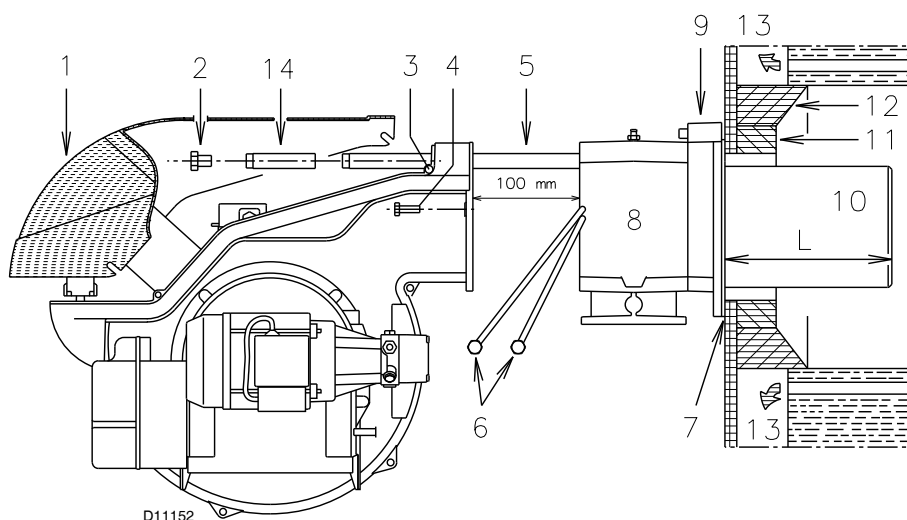
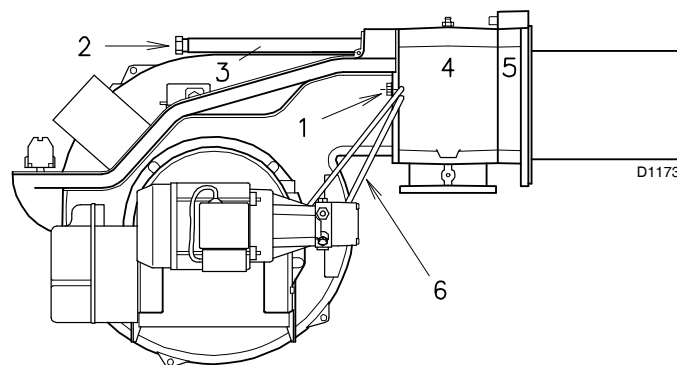

Fig. 9
Fig. 15
For boilers with front flue passes 13)(Fig. 9) or flame inversion chambers, protective fettling in refractory material 11) must be inserted between the boiler fettling 12) and the blast tube 10).
For boilers having a water-cooled front the refractory fettling 11)-12)(Fig. 9) is not required unless it is expressly requested by the boiler manufacturer.
- disconnect the hoses by unscrewing the two connectors 6)(Fig. 9).
Once this operation has been carried out (if it was required), secure the flange 9)(Fig. 9) to the boiler plate, interposing the thermal insulating screen 7) supplied with the burner.
- Refit the burner to the slide bars 3)(Fig. 15) at approximately 100 mm from the sleeve 4) - burner positioned as shown in Fig. 9 at page 16.
- Insert the ignition electrode cables and then slide the burner up to the sleeve so that it is positioned as shown in Fig. 15.
- Only for long blast tube burner: unscrew the screws 2) and remove the two extension bars 14)(Fig. 9) from the slide bars 3); then refit the screw 2).
- Connect the oil pipes again by screwing on the two connectors 6)(Fig. 9 at page 16).